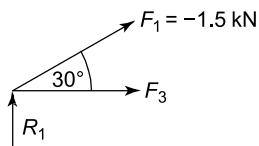

Figure 6.29
Considering joint (2), as it now has two or less unknown forces; see Figure 6.29.